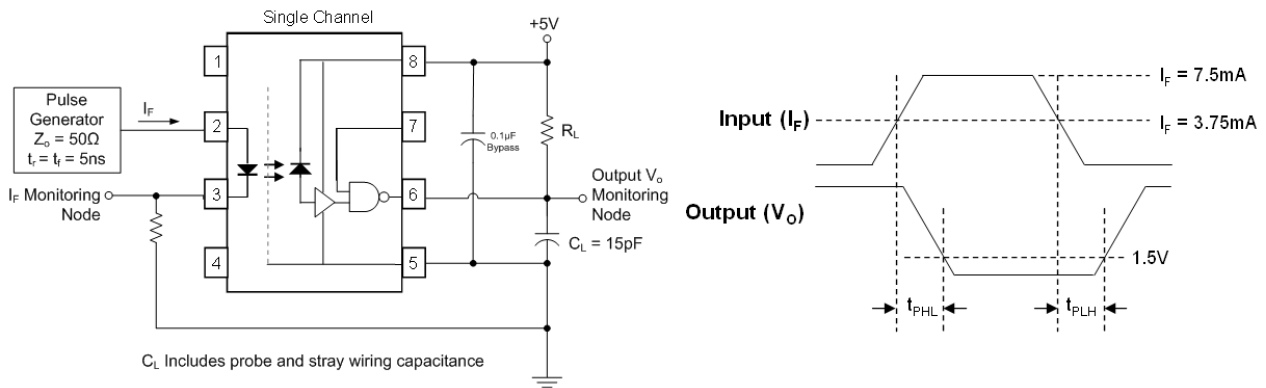

Figure 1: Single Channel Test Circuit for t_{PHI} and t_{PLH}
1. A 0.1μF or bigger bypass capacitor for V_{CC} is needed as shown in Fig.1